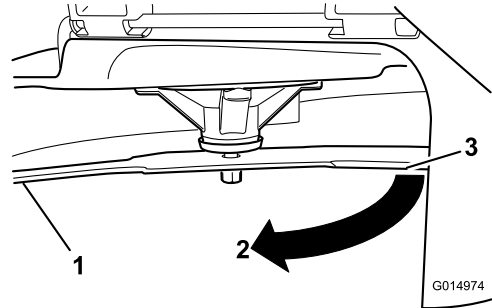

Figure 64
4. Rotate the same blade 180 degrees so that the opposing cutting edge is now in the same position (Figure 64).